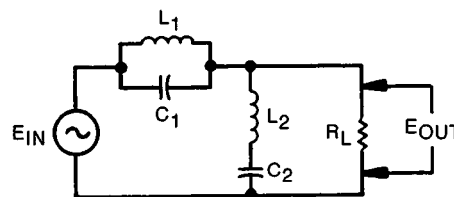

Figure 5-60
10. Refer to Figure 5-60. L_1 and C_1 have the same resonant frequency (f_0) as L_2 and C_2 . This type of filter: